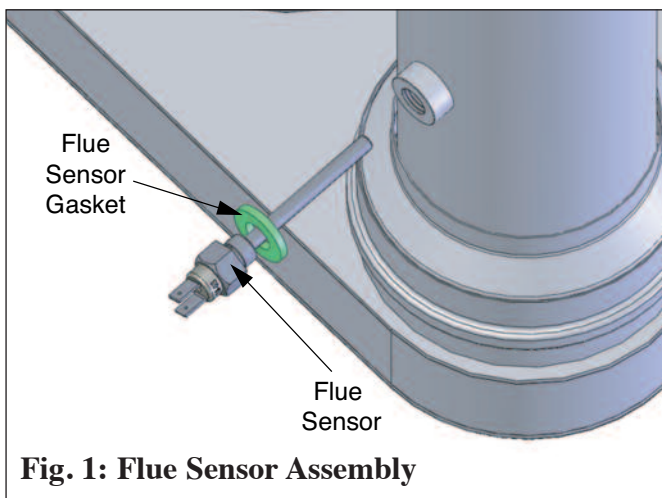

Fig. 1: Flue Sensor Assembly
6. Remove the flue sensor from the vent outlet pipe as shown in Figure 1. Do not discard the flue sensor as it will be re-used later.